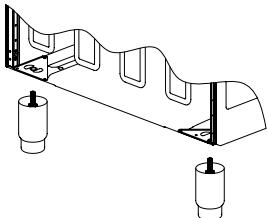
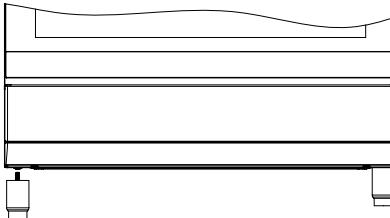

Figure 1
Figure 2
1. Foot attachment lath is installed on the oven from the bottom of the oven as shown in (figure 1). Nuts are centered on these latches in order to screw feet. Complete the feet installation process by screwing the feet to the nuts (figure 2).